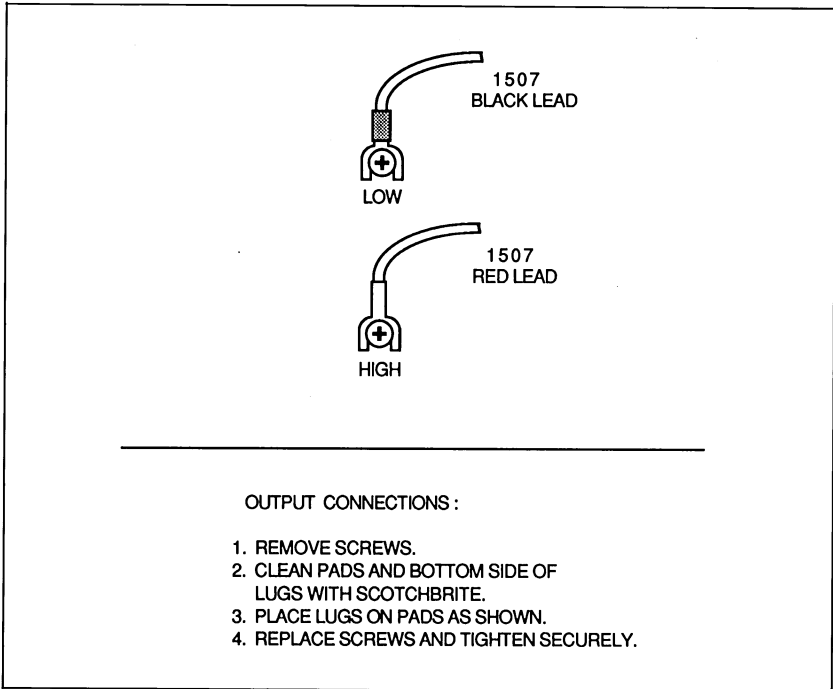

Figure 2-7. Detail of Output Connections
4. Connect the supplied Model 1507 cable to the output terminals as follows (see Figure 2-7 for details):
- C. Place the lugs on the pads with the orientation shown in Figure 2-7.